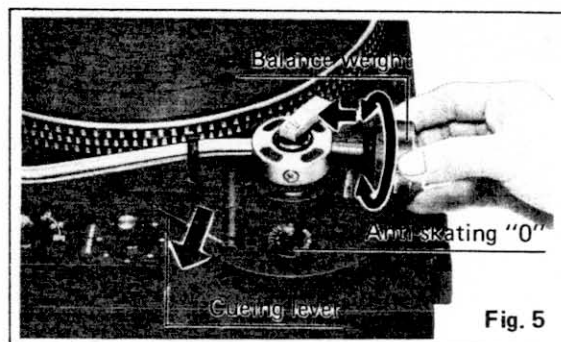
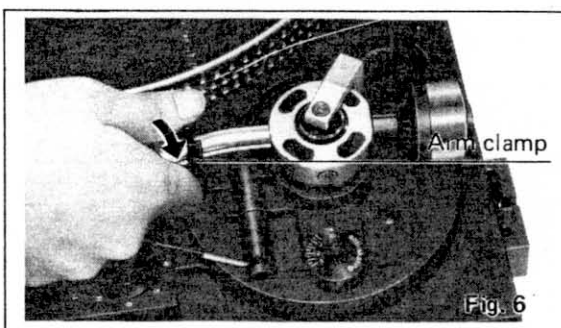
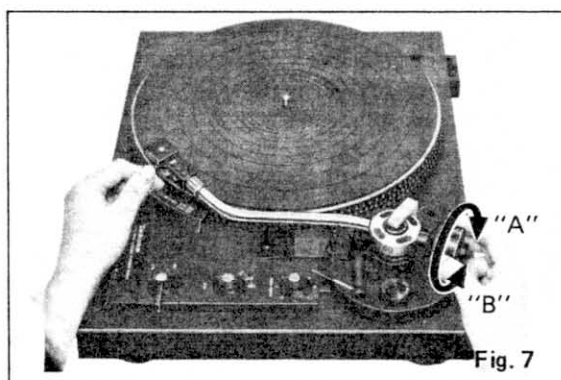

Fig. 5
Fig. 6
Fig. 7
- 1) Make sure that the cueing lever is in the lowered position as shown in Fig. 5.
- 3) Make sure that the anti-skating control knob is at "0" position. (See Fig. 5).
① Insert the balance weight onto the rear shaft of the tonearm. (See Fig. 5).
② Remove the stylus cover, if your cartridge has one.
③ Release the arm clamp (See Fig. 6) and lift the tonearm from the arm rest to free the tonearm. (See Fig. 7)
If the tonearm is urged to return to the arm rest when the tone-arm is held in a free state as in Fig. 7, rotate the turntable platter clockwise about 10 times. This is necessary because in rare cases the automatic mechanism may have engaged the tonearm gear or moved out of its normal position during transportation.
- ④ Turn the entire balance weight clockwise (indicated by the arrow "A") or counterclockwise (indicated by the arrow "B") until the tonearm is approximately balanced horizontally. (See Figs. 7 and 8).